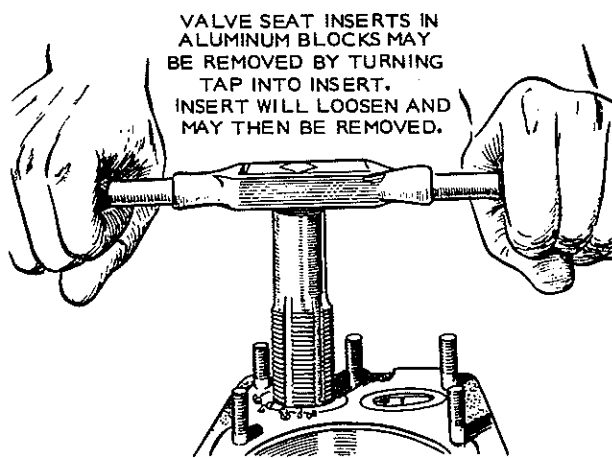

FIGURE 15-13. REMOVING VALVE SEAT FROM ALUMINUM BLOCKS
3. For engines with aluminum cylinder blocks, use a standard 3/4 inch or 1 inch pipe tap depending on the seat diameter, Figure 15-13. Place a small piece of flat steel or a flat washer on the top of the valve guide for the tap to bottom against. Turn the pipe tap in until the seat starts to turn in the crankcase recess. Continue to turn the tap and pull outward to remove the seat. If the valve guide is pushed downward by the tap, be sure to push it back into the proper position. Because a slight amount of recess metal will be removed by this operation, an oversize replacement seat must be used.